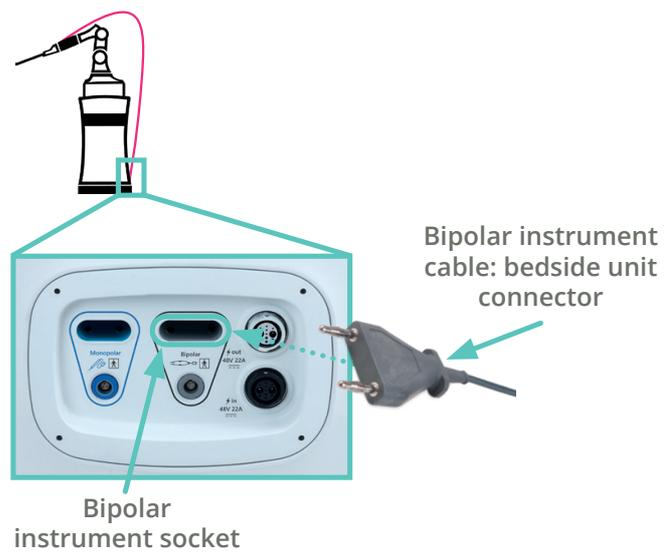

Figure 10.14 *Connecting the bipolar instrument cable to the instrument bedside unit*
2. The instrument bedside unit connection panel (Figure 10.14)